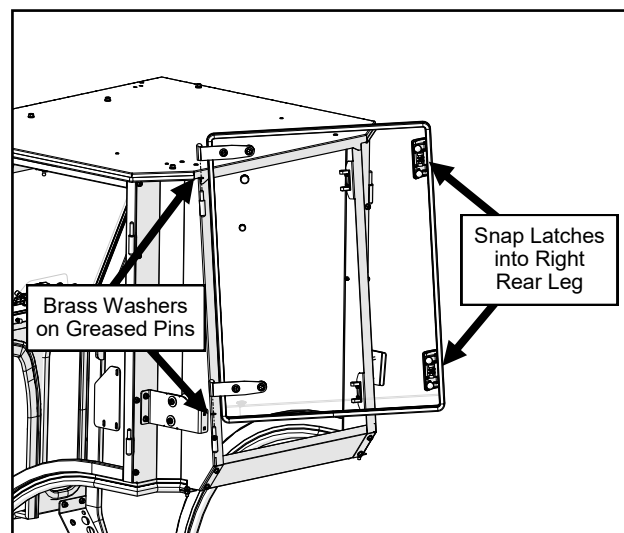

Fig. 11.2 (Hang Rear Window)
- 11.2** Grease the hinge pins for the rear window, and slide on greased brass washers (one washer per pin). See Figure 11.2.